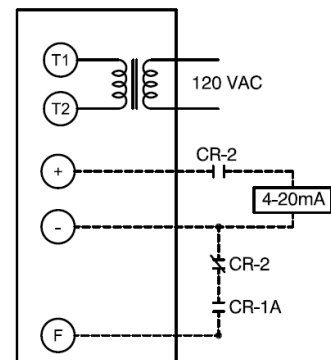

Figure A-2: Wiring a Honeywell Mod IV Motor to the LME75 (with Valve Proving)
3. Wire the LME75.000A1 burner control, Honeywell Modutrol IV motor, and four relays as shown in Figure A-2. See Section 4 for more details on how to wire in other devices to the LME75.